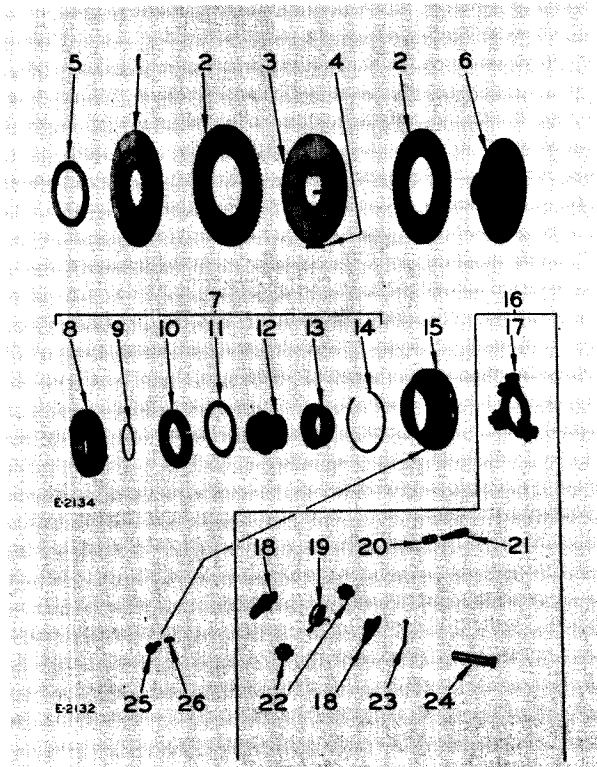

Figure 20 Hoist Direct Drive Clutch
Remove the snap ring (14), Figure 20, and press cone collar (8) off the bearing. This will leave the snap ring (9) exposed, which may now be removed. The bearing (10) and the washer (11) may now be pressed off the cone sleeve (12). The cone sleeve (12) may now be pressed out of the cone ring (13).
Remove the cover (15), Figure 20, the cotter pin (23) and then drive out lever pin (24). The levers (18), the spring (19), and the rollers (22) may now be removed and disassembled.